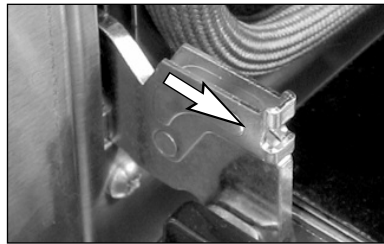

Fig. 21
2. Unlock the door hinges by rotating the lock forward (Fig. 21).